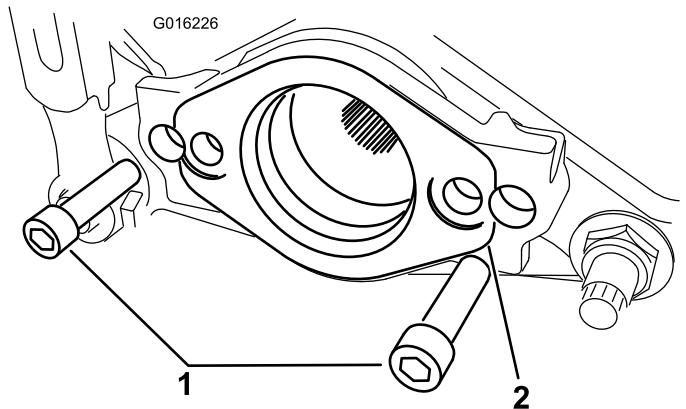

**Figure 2**
5. Remove the 2 bolts and nuts securing the counterweight to the right end of the cutting unit. Remove the counterweight (Figure 2).
6. Remove the bearing nut from the reel shaft (Figure 2).